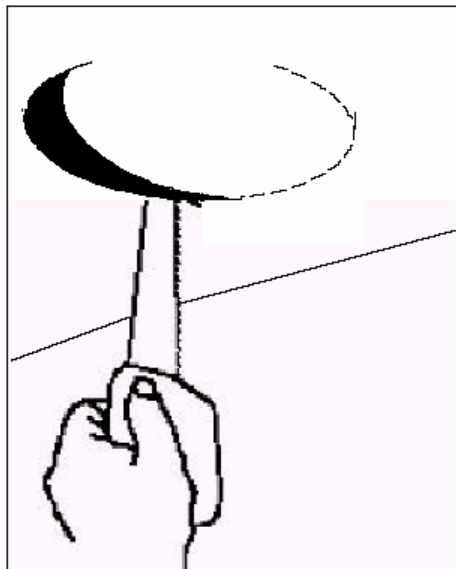

图 33
- 3) According the material of ceiling, choice the different tools to drill (reference to Figure 33)